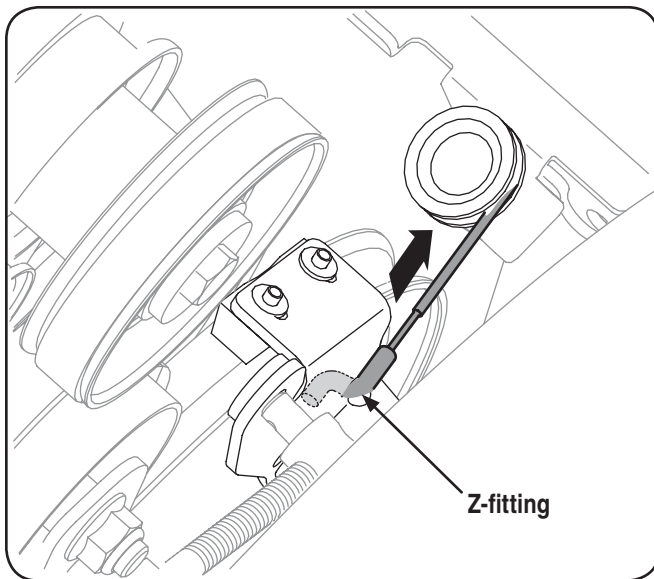

Figure 7-5
3. Pull the brake bracket assembly towards the cable guide roller and unhook the auger cable "Z" fitting. See Figure 7-5.